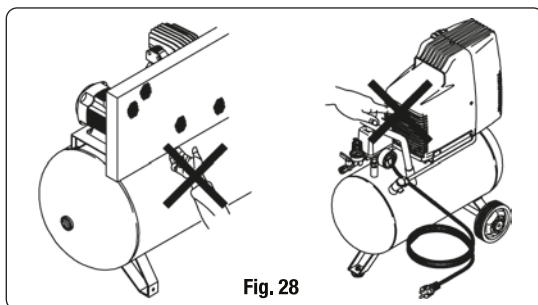

Fig. 28
- Do not place objects nor your hands inside the protective grid to prevent physical injuries and damage to the compressor (fig. 28).